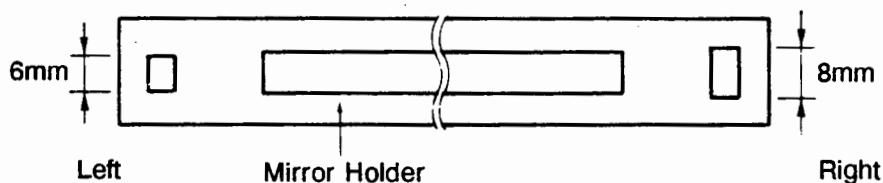
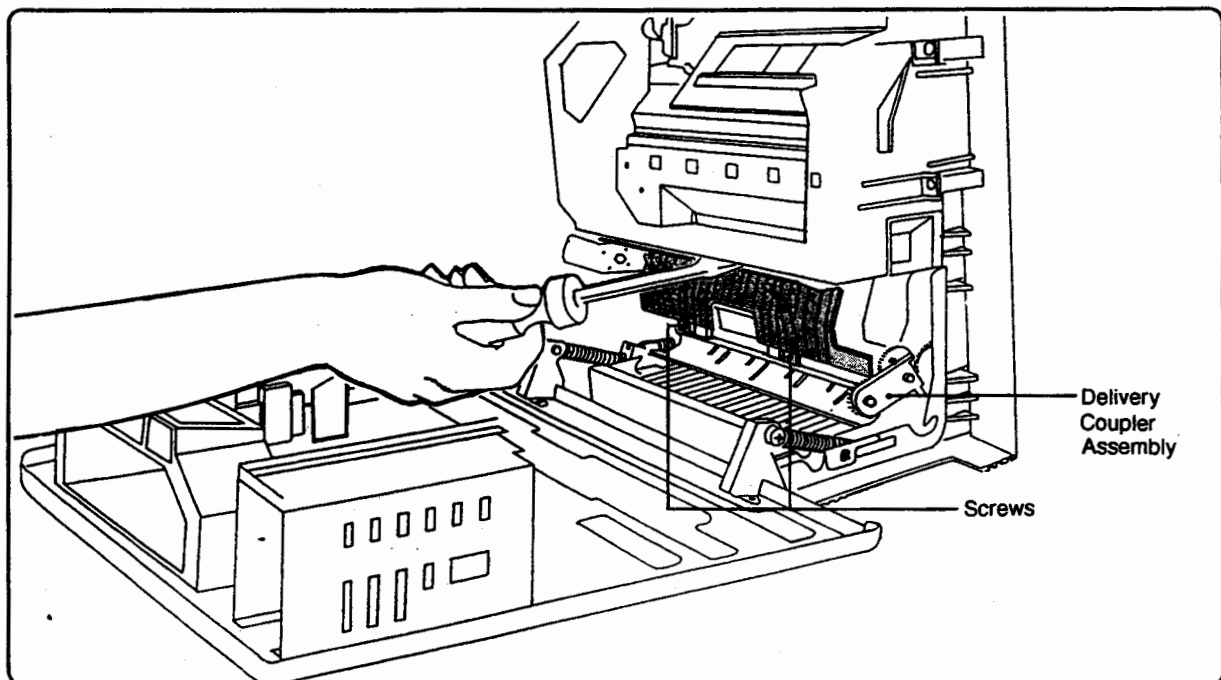

Figure 6-42. Mirror Holder
Figure 6-44. Fuser Insulating Cover Removal
6. Ensure that the Mirror Assembly is returned to the printer in the correct orientation. The assembly has a 6 mm slot on the left and an 8 mm slot on the right as shown in Figure 6-42.
3. Remove the black-plastic Fuser Insulating Cover screws (the 2 smaller brass-colored pan-head screws with washers) (see Figure 6-44).
4. Insert a small flat-blade screwdriver between the cover and the EP-S Cartridge Guide frame as shown in Figure 6-44, prying the plastic clips away from the cover to release it.
When reinstalling the Delivery Assembly, position the Delivery Coupler Assembly as shown in Figure 6-44. When reinstalling the Cartridge Guide, be sure to position the Mirror Assembly mounting slots properly (see Figure 6-42).